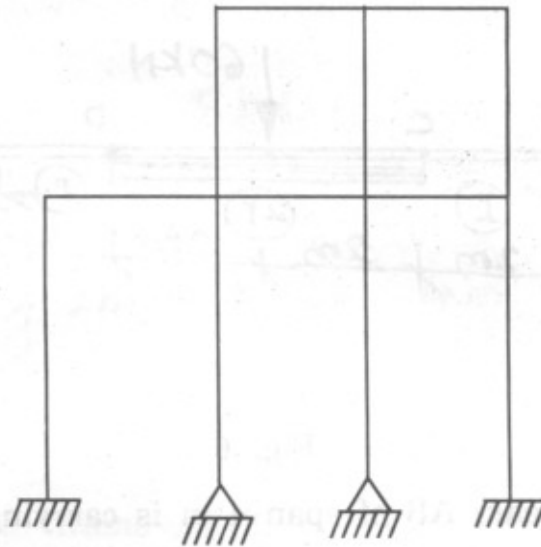

Fig. 4
2. (A) Explain in brief static and kinematic indeterminacies of a structure. Find these for a plane frame shown in Fig. 4. [5]